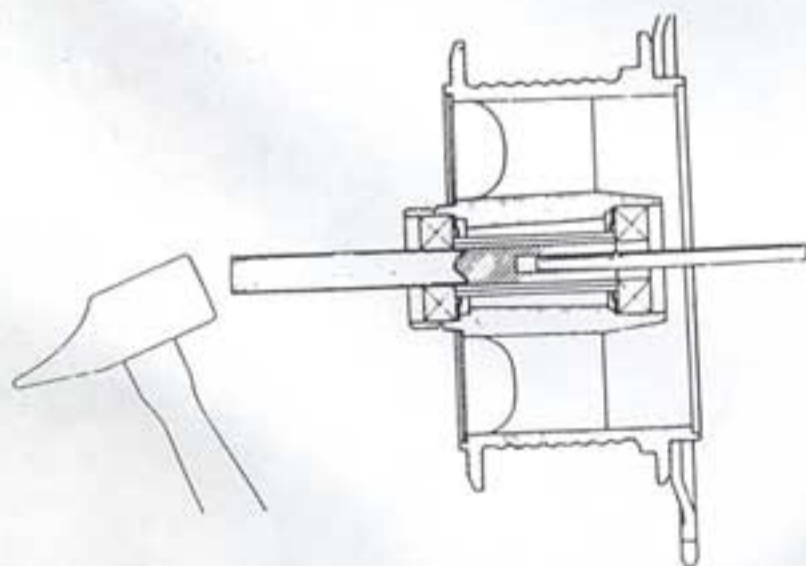

Fig. 3
- Insert a drift punch and knock out the bearing (diameter 30mm) on drum side (fig. 3).